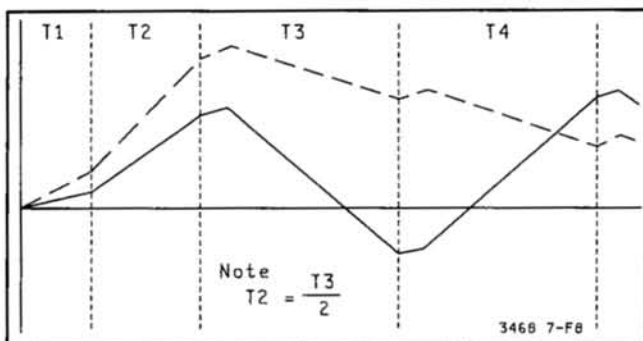

Figure 7-F-8. Integrator (U401) Output Slopes
d. When time T3 is completed, the A/D Controller determines if the output slope crossed zero. If zero crossing is detected, a current with the same value and an opposite polarity as the previously applied current is applied. This current is the same current as the first applied current and is applied to the integrator for a new time period T4 (T4 is as long as T3). This current, in addition to the input current, then charges C410. Since both currents charge C410, the output slope becomes steeper and, as shown in Figure 7-F-8, crosses zero.